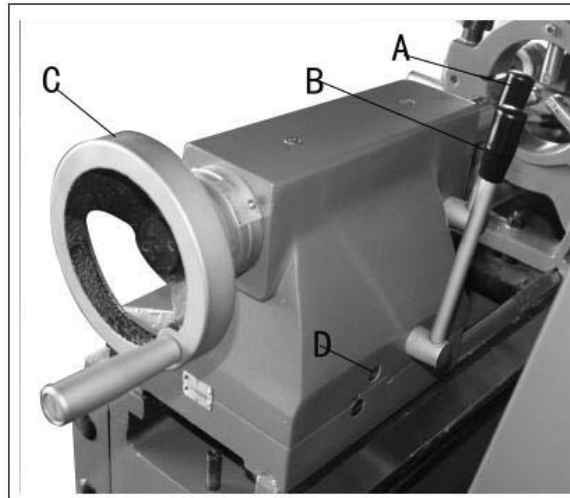

Figure 16
16. **Tailstock Quill Clamping Lever** (A, Fig. 16) – located on the tailstock. Lift up to lock the spindle. Push down to unlock.
17. **Tailstock Clamping Lever** (B, Fig. 16) – located on the tailstock. Lift up lever to lock. Push down lever to unlock.
18. **Tailstock Quill Traverse Handwheel** (C, Fig. 16) – located on the tailstock. Rotate clockwise to advance the quill. Rotate counter-clockwise to retract the quill.
19. **Tailstock Off-Set Adjustment** (D, Fig. 16) – Two hex socket cap screws located on the tailstock base are used to off-set the tailstock for cutting tapers. Loosening one screw while tightening the other off sets the tailstock.